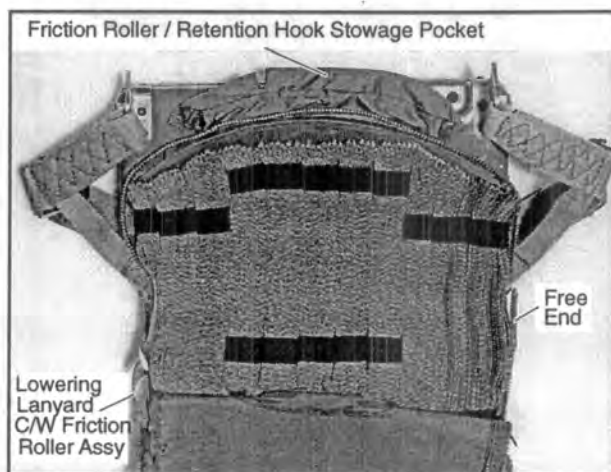

Figure 5-59 Lowering Lanyard Stowage
5.260 The Treescape system (Figure 5-59) is fitted to the RSSK-8A by six dome fasteners and consists of two main parts: